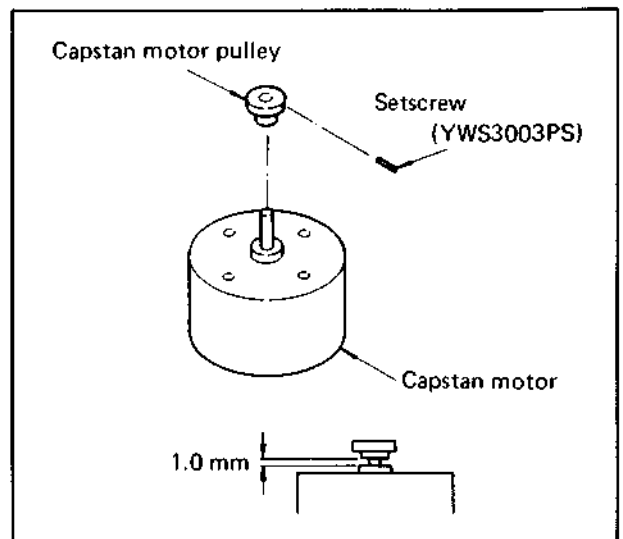

Fig. 4-22
2. Use a metric hex key to loosen the setscrew and remove the capstan motor pulley (Fig. 4-22).